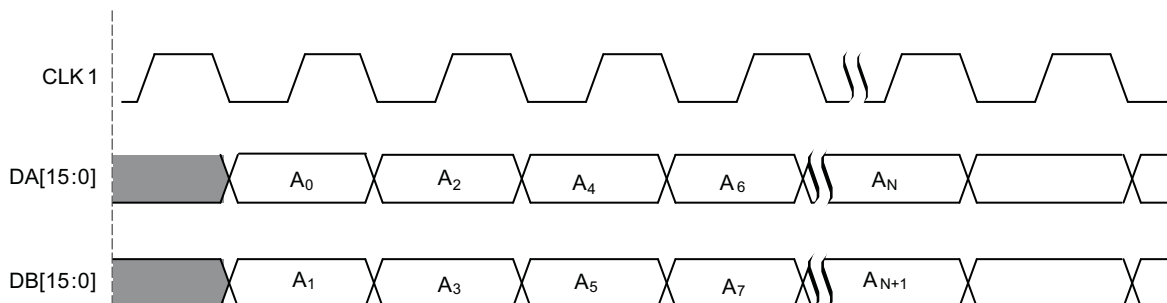

Figure 32. HALF RATE BUS MODE (Dual Clock Mode)
In HALF RATE BUS MODE, the user inputs data on both DA[15:0] and DB[15:0] ports at half rate and input logic merges both data streams into one DAC channel (A). This mode is selected by setting CONFIG1 `insel_mode[15:0]` = '11'. Refer to Figure 32.